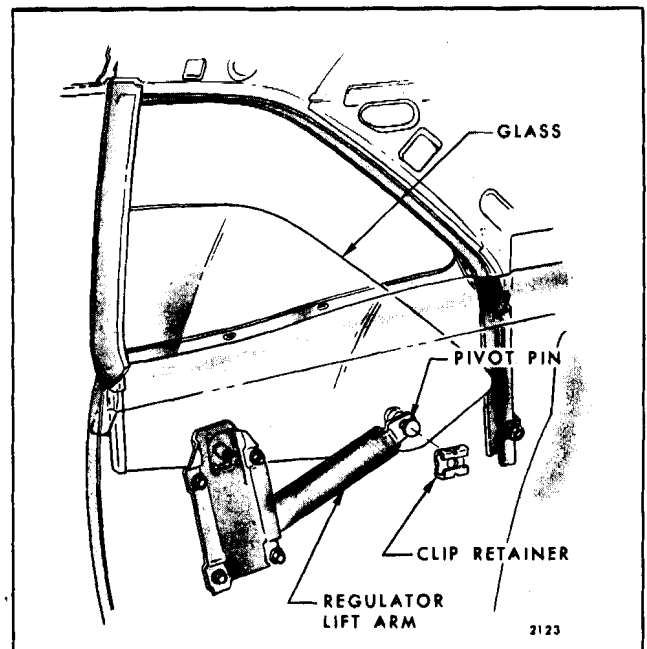

Fig. 7-5-Rear Quarter Window Attachment - Typical "A" Closed Styles
2. Operate quarter window to the position illustrated in Figure 7-5.
NOTE: Figures 7-5 and 7-6 are typical of rear quarters with the inner panels removed. These figures identify the component parts of the rear quarter hardware (by style), their relationship and various attaching points.